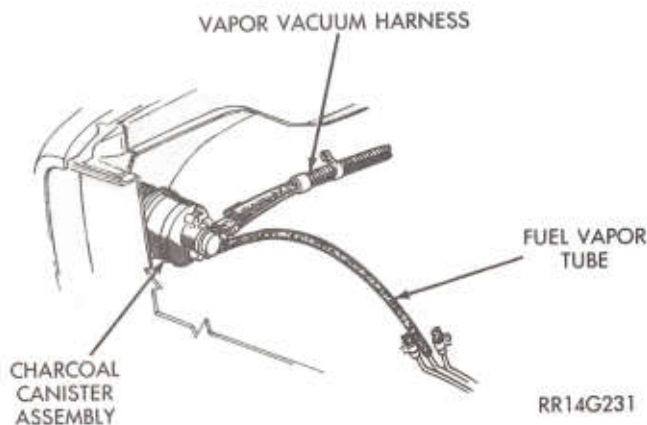

Fig. 3—Vapor Canister
(3) Verify that hoses are securely attached to vapor canister (Fig. 3).